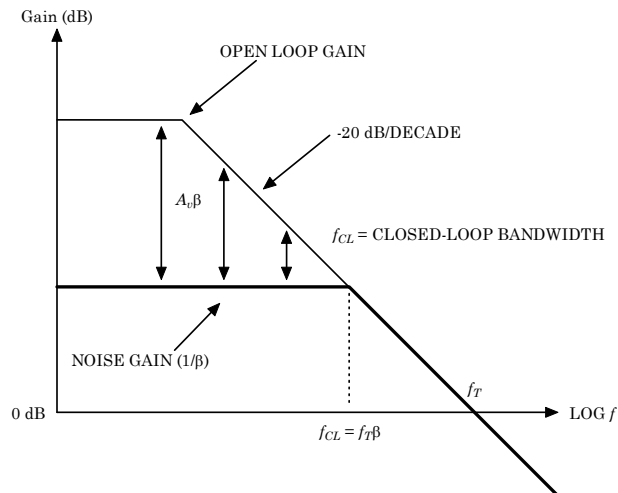

Figure 8: Op Amp Open Loop Gain and Noise Gain
Returning to our discussion of open loop gain and bandwidth, the small signal bandwidth, or frequency response, or closed loop bandwidth¹³ of an amplifier is the frequency where the signal gain is 3 dB below the passband gain. It is a property of voltage feedback¹⁴ Op Amps that the closed loop bandwidth is given by f_T divided by the circuit noise gain, or $f_{CL} = f_T \beta$. Graphically, the above is summarized in the magnitude plot in Figure 8. Note that when plotted in dB, the difference between the open loop gain (A_v) and the noise gain is the loop gain ($A_v \beta$). This will be very useful later.
Figure 8 shows that $A_v\beta$ (shown graphically as the difference between the open loop gain and the noise gain) decreases with frequency. This is why high open loop gain is important and also why it is often necessary to select an Op Amp with high open loop gain and/or a higher than expected bandwidth. Otherwise the gain error given by Equation (27) can be large. Stability can also be impacted.